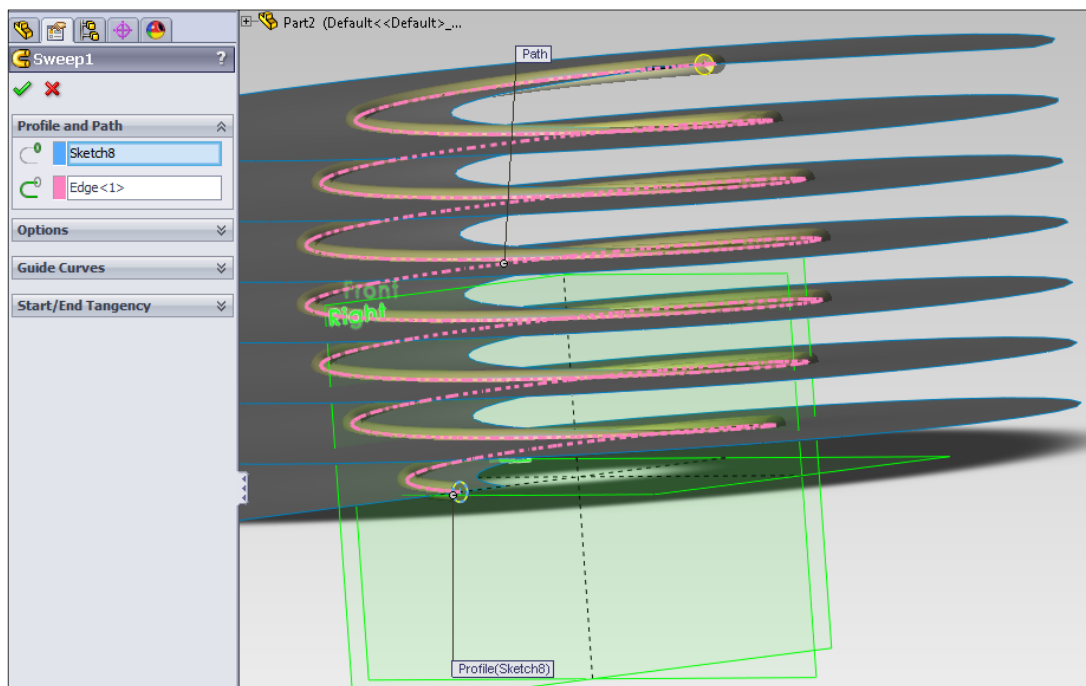

Fig.10
9. Create variable diameter push spring using Swept Boss/Base : Fig.10